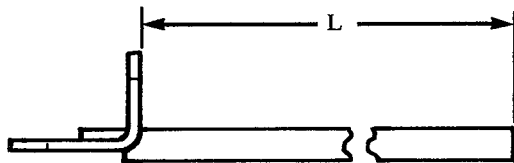

Figure 3.
5. Secure mechanism to breaker cover at line end with (2) #8-32 x 1¼" screws and lockwashers.
6. Secure mechanism at load end with (1) ¼-20 x 4½" screw and lockwasher.
7. Cut shaft, if required (TJKOM2 only) per figure 3. Insert shaft into mechanism collar and torque ¼-20 Allen locking set screw to 40-50 lb.-in. using ⅛" Allen key wrench.
11. Optional NFPA79 compliant inner handle - Order TH79JK. Requires minimum shaft length (L) of 3.50".
3. Secure mechanism to breaker cover at line and load end with (4) #8-32 x 3/8" screws.
4. Cut shaft, if required (TJVOM2 only) per figure 3. Insert shaft into mechanism collar and torque 1/4-20 Allen locking set screw to 40-50 lb.-in. using 1/8" Allen key wrench.